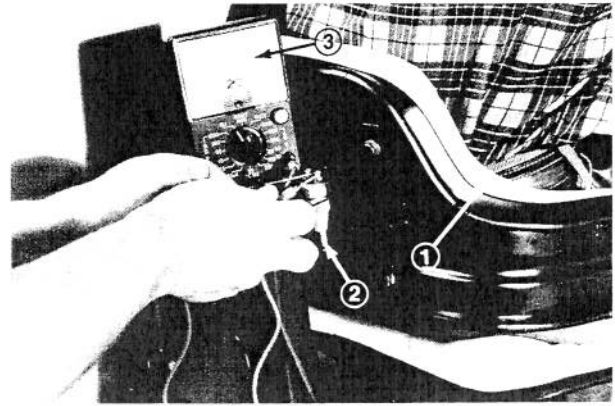

Figure 115
3. Have someone sit on seat, adjust seat spring tension and connect meter leads to switch wire terminals (Fig. 115). Switch should indicate continuity.